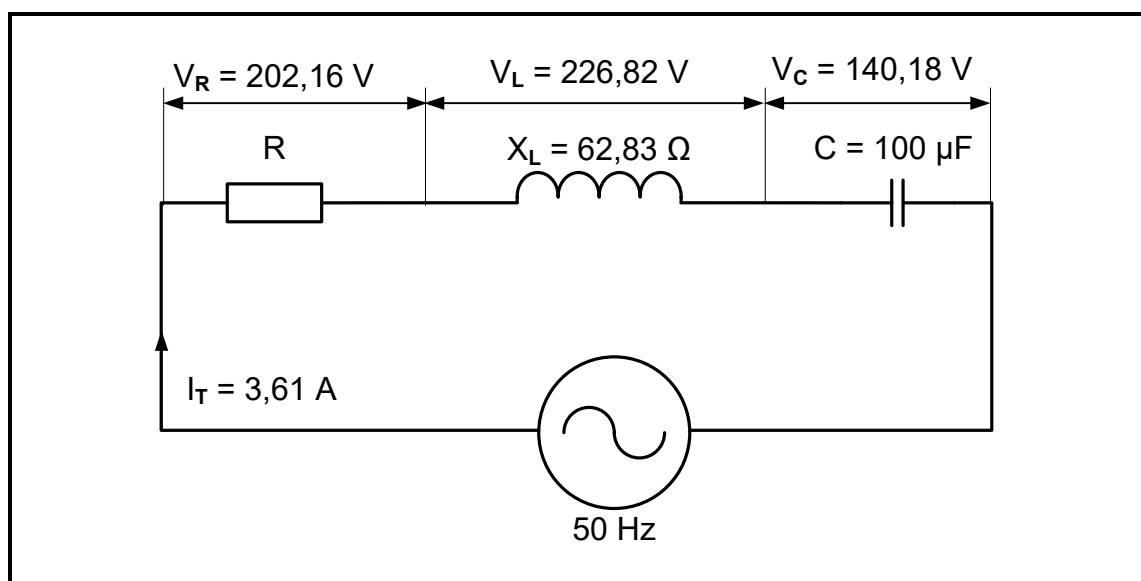

FIGURE 3.2: RLC SERIES CIRCUIT
3.2 FIGURE 3.2 below shows an RLC series circuit connected to an AC supply. Answer the questions that follow.